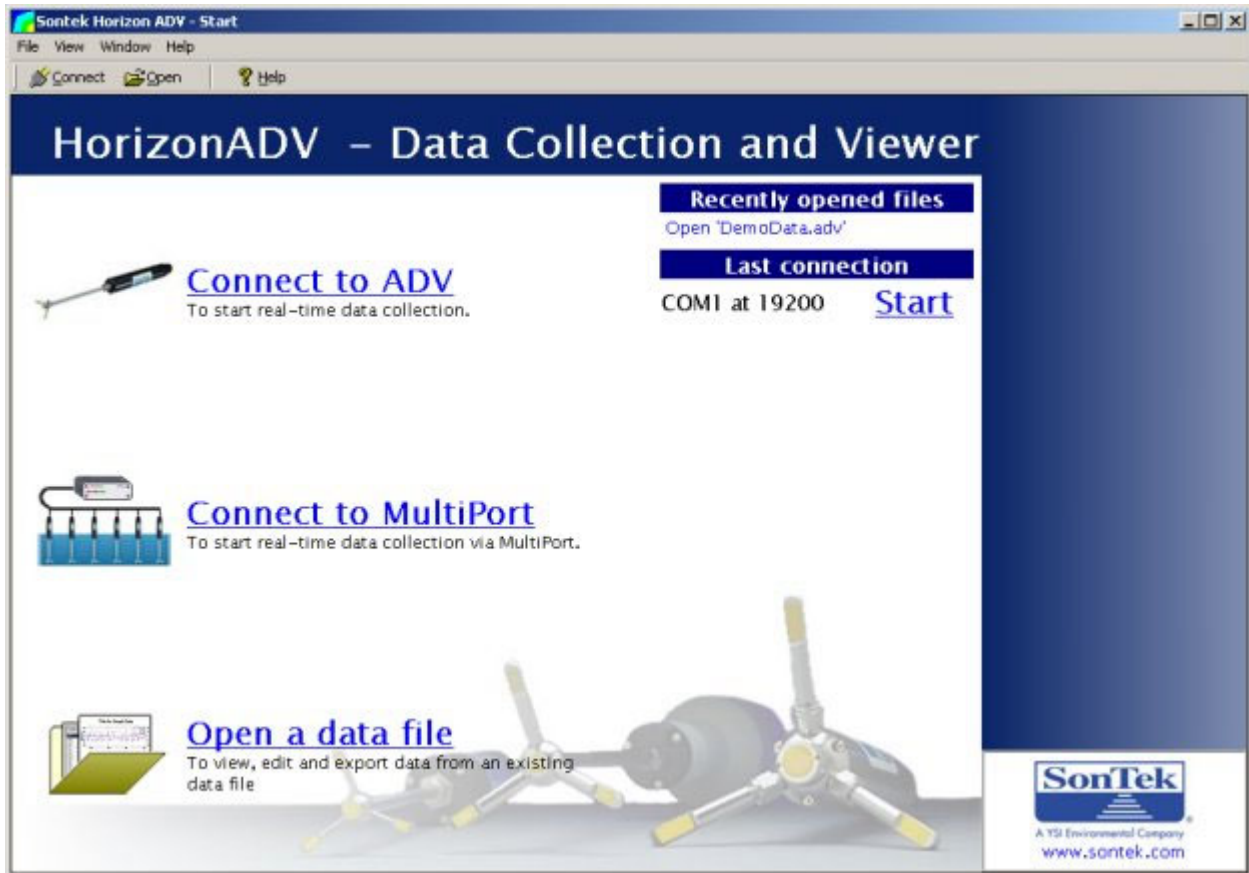

Figure 49. HorizonADV Main Menu
- From the main menu (Figure 49), click **Connect to MultiPort**.